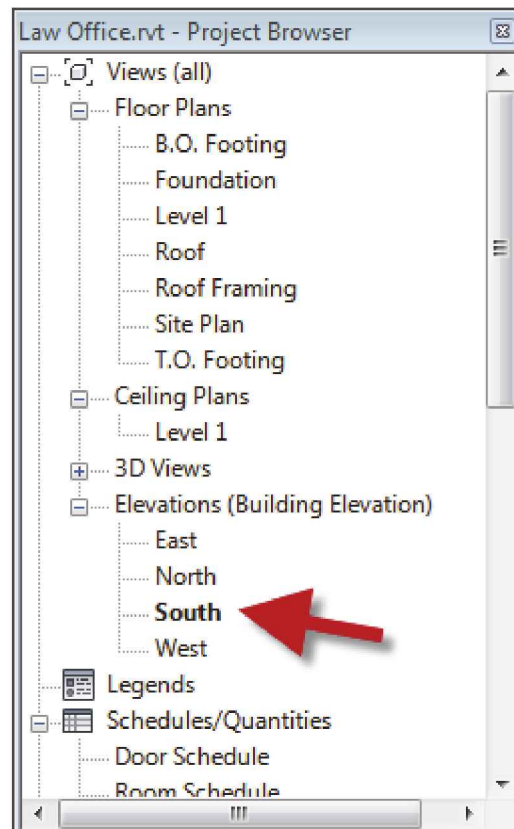

FIGURE 5-3.5 Opening the South elevation
9. Switch to the **South** elevation view via the *Project Browser* (see Figure 5-3.5). Double-click **South**.